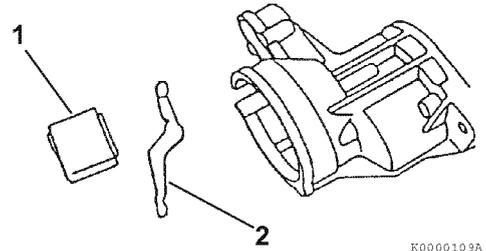

Figure 11-8
- Disassemble the dust cover (3, Figure 11-8) and shift the lever (4, Figure 11-8) from the gear housing.